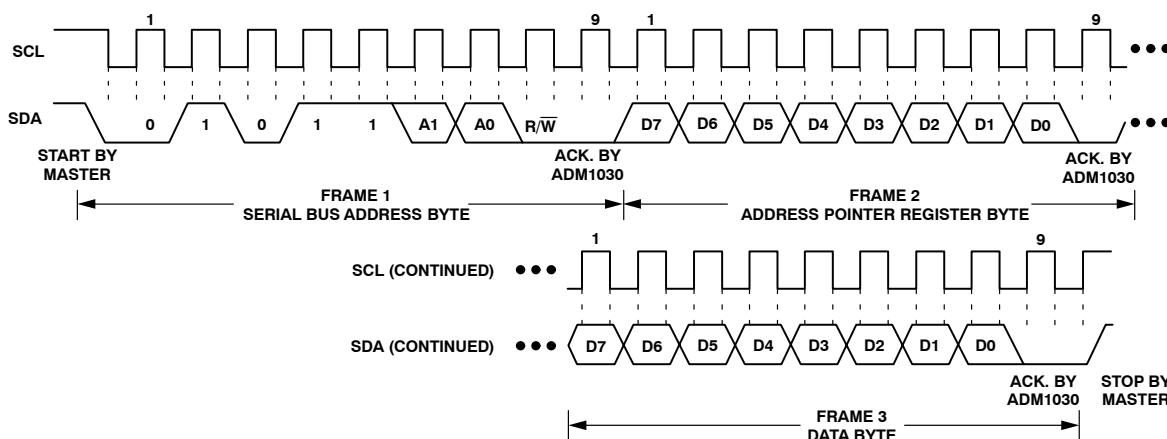

Figure 15. Writing a Register Address to the Address Pointer Register, then Writing Data to the Selected Register
This is illustrated in Figure 15. The device address is sent over the bus followed by R/W set to 0. This is followed by
- In Figures 15 to 17, the serial bus address is shown as the default value 01011(A1)(A0), where A1 and A0 are set by the three-state ADD pin.